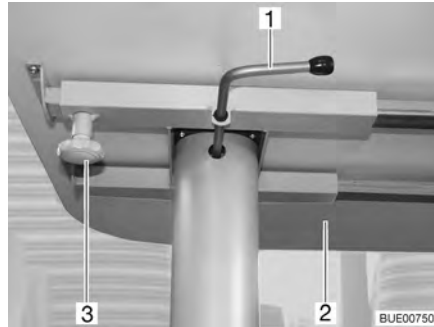

Fig. 70 Lift-off table, movable
- Loosen knurled screw (Fig. 70,3).
- Move table-top (Fig. 70,2) to the desired position.
- Swivel the catch lever (Fig. 70,1) to the left. The lock of the lifting mechanism is open.
- Press table-top (Fig. 70,2) in the middle down to the stop limit and hold it down.
- Swivel the catch lever (Fig. 70,1) to the right (Fig. 70). The lifting mechanism is locked.
- Swivel the catch lever (Fig. 70,1) to the left. The lock of the lifting mechanism is open. The table-top moves upwards to the limit stop.
- Swivel the catch lever to the right (Fig. 70). The lifting mechanism is locked.